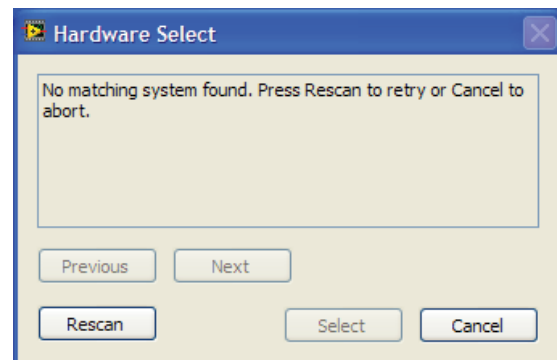

Figure 6. Pop-Up Window Error
2. If the SDP board is not connected to the USB port when the software is launched, a connectivity error displays (see Figure 6). Simply connect the evaluation board to the USB port of the PC, wait a few seconds, click **Rescan**, and follow the instructions.